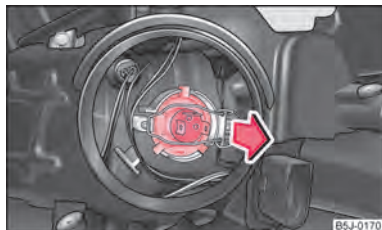

Fig. 158 Removing the light bulb for the low beam and main beam light
- Pull off the connector from the lamp, release the sprung wire clamp and pull out the lamp towards the rear ⇒ fig. 158.